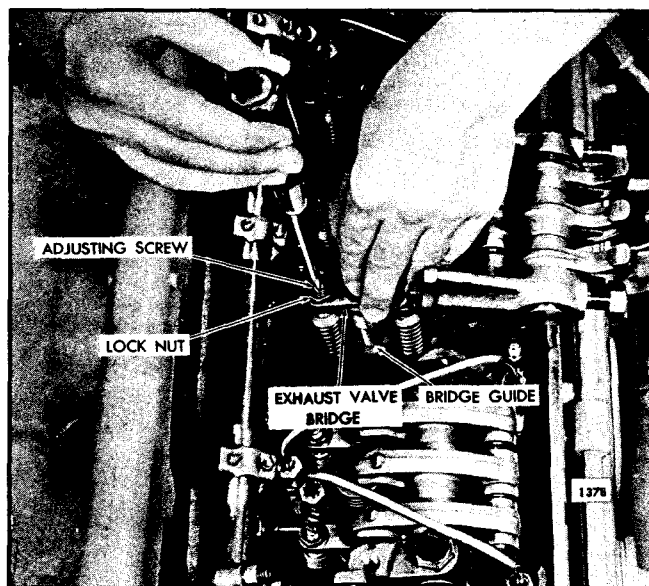

Fig. 2 - Bridge Balancing Adjustment
2. Remove the exhaust valve bridge (Fig. 2).